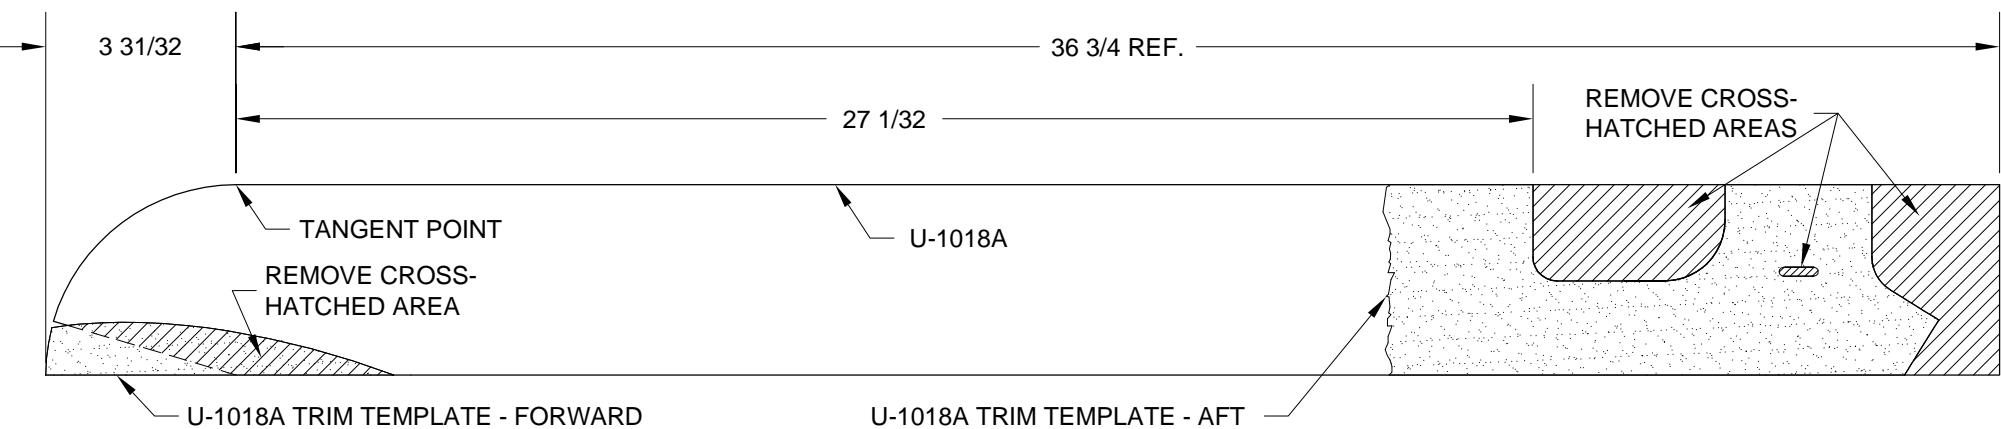

FIGURE 1: TRIMMING THE NOSE GEAR LEG FAIRING
Step 2: Drape the Aft Template over the U-1018A Nose Gear Leg Fairing and position it as per Figure 1. Double check that the measurement was taken to the cutout (shaded area) and **not** to the forward edge of the template. Transfer the outline to the part and trim as shown in Figure 1.
Step 3: Glue the Forward Template to a piece of stiff paper and position it onto the U-1018A Nose Gear Leg Fairing as per Figure 1. Transfer the outline to the part and trim accordingly. The template defines a conservative 'zero clearance' fit with the nose wheel fairing so the gear leg fairing should require additional trimming.